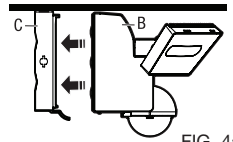

FIG. 4a
2. Attach the light fixture (B) to the mounting plate (C). Support the back-plate from behind with one hand and push the light onto the back-plate with the other hand. FIG. 4a